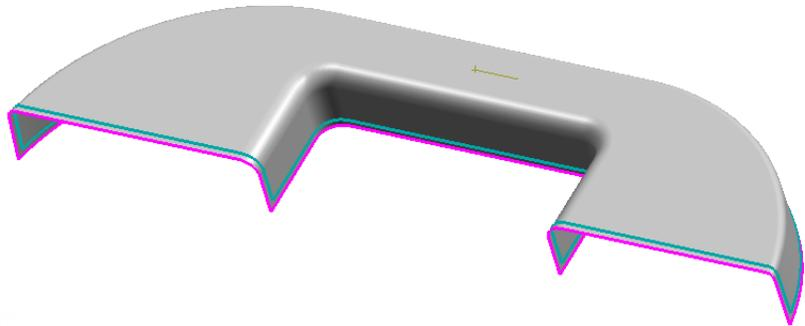

Figure 4–59
1. Open **PRODUCIBILITY_C.prt**. The model displays as shown in Figure 4–59.